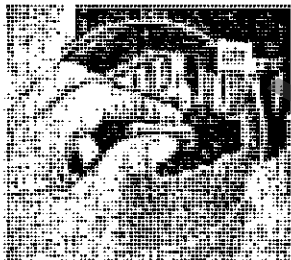

FIG. 19.
2. Change the fixed and moving contacts every two years. Do not file contacts. See Figs. 19 and 20.